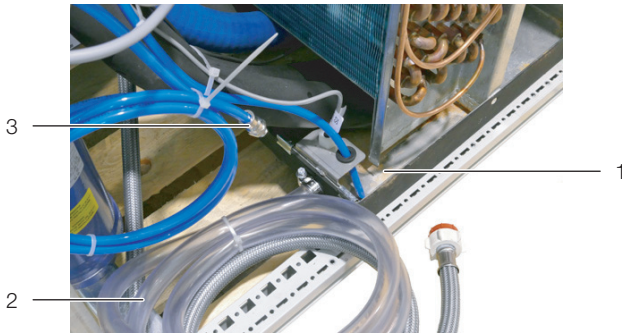

Fig. 26: Condensate discharge
Any condensate which may develop is collected in the condensate collecting tray (fig. 26, item 1) beneath the heat exchanger.
A hose ($\varnothing_i = 16 \text{ mm}$, length = 2 m) is connected to the condensate discharge in the factory (fig. 26, item 2). This hose, in turn, must be routed to a drain with odour seal by the customer, so that any condensate can be discharged from the device. The LCP DX may optionally be fitted with a condensate pump in addition to this (see section 15.5 "Condensate pump").